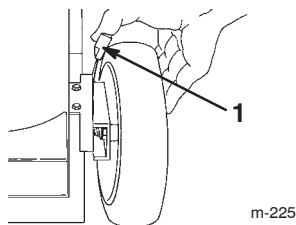

Figure 17
- Set all 4 wheels in to the 2-1/2 inch (64 mm) cutting height setting (Fig. 17).
1. Pull the wheel height adjustment lever toward the wheel (Fig. 17) and move it to the desired setting.